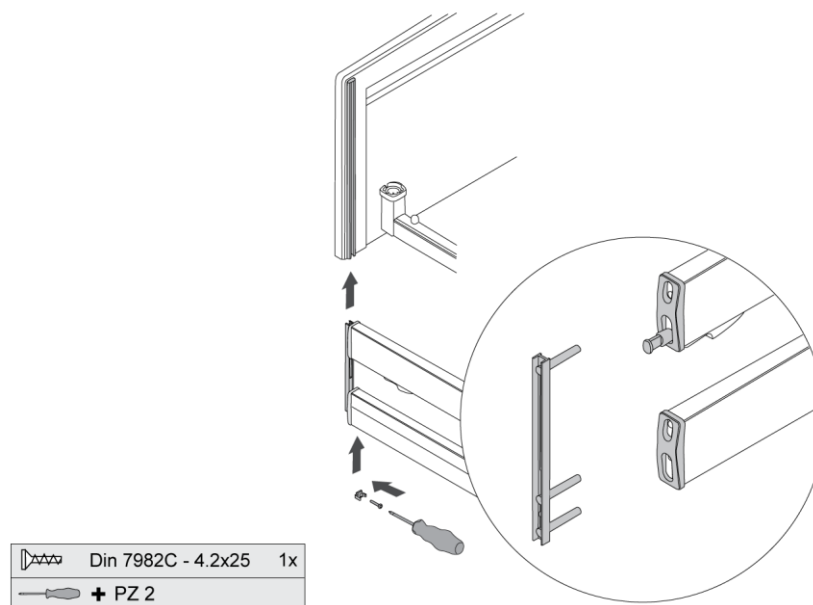

Figure 6.6: Assembly of the Pollux sideguards
Step 2: Fix the Pollux sideguards to the head and foot panel Valentino / Felina / Puro like shown in fig 6.6